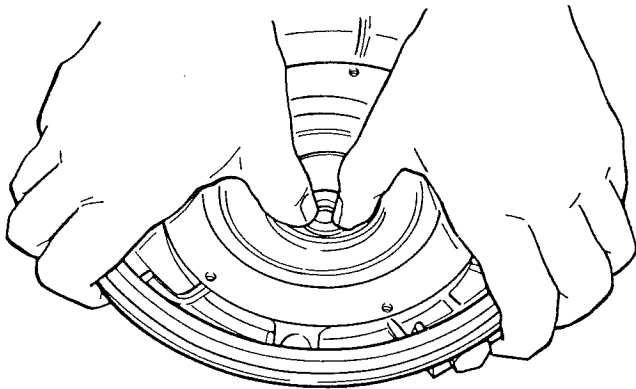

Figure 25—Press In New Seal
3. Put clean cardboard washer on seal face. With thumb pressure, press ceramic seal half firmly and squarely into seal cavity in copper heat sink (See Figure 25). Polished face of ceramic seat is up. If seal will not seat correctly, remove, placing seal **face up** on bench. Reclean cavity, seal should now seat correctly.